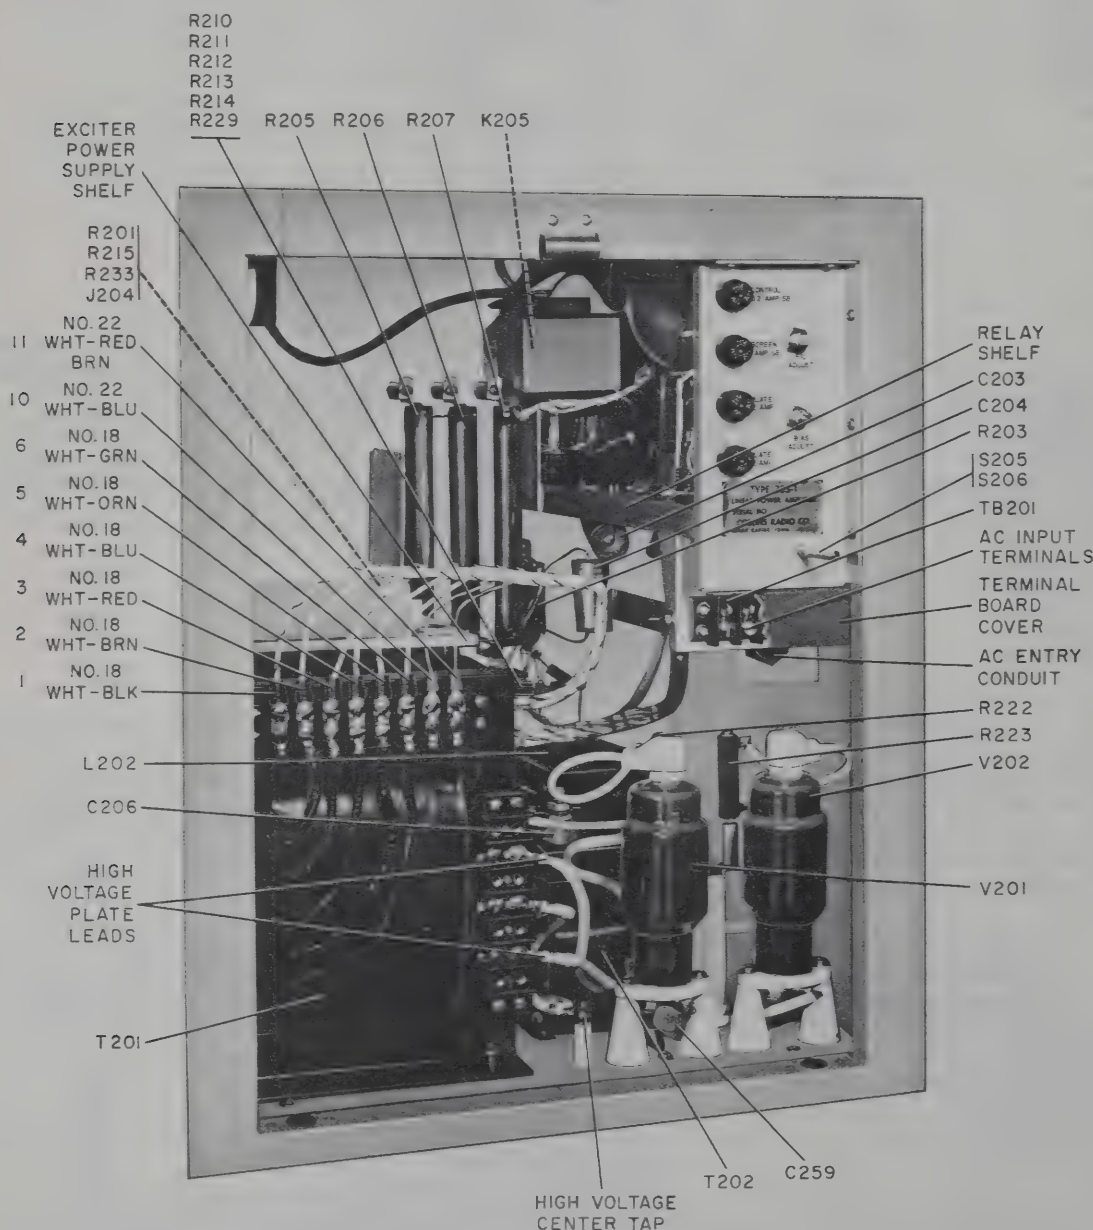

Figure 4. Power Supply Compartment, Parts Location and Wiring
c. Loosen the exciter power supply shelf, shown in figure 4, and tip it back out of the way. This shelf provides space for mounting the exciter power supply inside the 30S-1 power compartment, if desired. The shelf may be loosened by removing three flat-head machine screws along the left side and two sheet metal screws along the back edge. The screw heads on the left side are on the inside of the cabinet, and the screwheads along the rear are on the outside of the cabinet.
e. Connect the lead from the ceramic post insulator to the center tap (terminal 8) of the transformer. This insulator is shown in figure 4 in front of the 3B28 filament transformer, T202.
g. Connect the wires of the cable to the terminal strip across the top edge of the transformer frame according to the wire code information of figure 4.
j. If the exciter power supply is preferred in the lower compartment of the 30S-1, remove the 516F-2 from its case before mounting on the shelf in the 30S-1. Plug the 32S-() (or KWM-2) into the 516F-2. Plug the 516F-2 into J204. This jack is located inside the 30S-1 on the flange of the power supply shelf. See figure 4.
k. Connect the 30S-1 power supply input terminals to the ac line according to the information given in figures 1 through 3. Run the ac power supply leads through the entry conduit from the rear of the cabinet. Connect the white wire to the neutral. The ac input terminals are shown in figure 4.